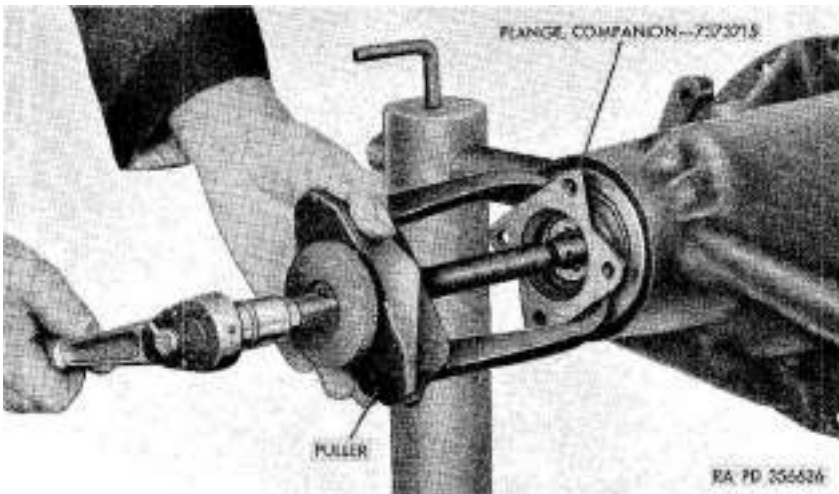

Figure 76. Removing companion flange with universal type gear puller.
- (4) Remove companion flange with puller (fig. 76).